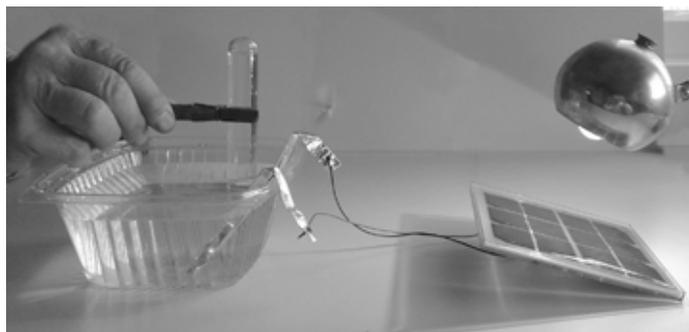

Figure 7.1: Collecting hydrogen gas
1. To test a gas, you need to collect a gas. A test tube provides a good method to collect gas. Since gas is less dense than water, it is obvious that the bubbles will rise in the water. Fill a test tube with water in the tub by immersing it and then turn it upside down (with the water still inside it) and move it above the bubbles at one of the electrodes. Make sure the test tube stays full of water, even while it is upside down and sticking out of the water. As the bubbles rise into the test tube, they will push out the water and make a big bubble of gas inside the test tube. See figure 7.1 above.